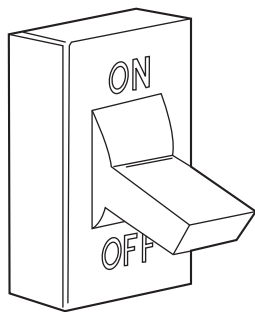

Fig. 19 – Turn Off Electrical Supply
1. Turn off electrical supply to the furnace (see Fig. 19).